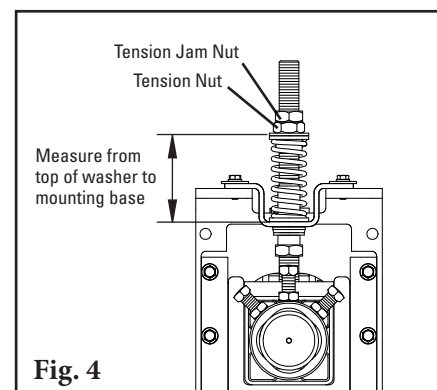

Fig. 4
4. **Set adjusting rod sleeve.** After setting the blade tension, screw the adjusting rod sleeve into the UHMW bushing until 38 mm (1-1/2") is showing (Fig. 4). Tighten the adjusting rod sleeve jam nut.
Loosen the top tension jam nuts on both sides. Turn the lower tension jam nuts on both sides. Turn the lower tension nut until the correct spring compression is reached (Fig. 4). Tighten the top tension jam nut to lock in place. See chart below for the correct spring length for your belt width. If using air pressure, reset the control box to the specified pressure in chart below.